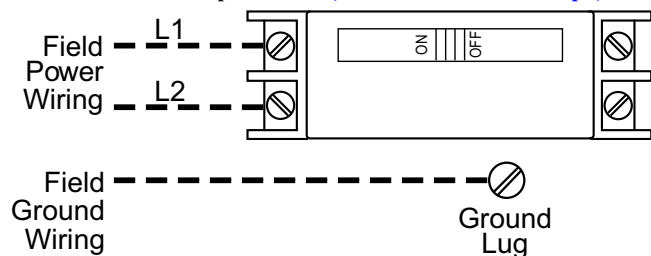
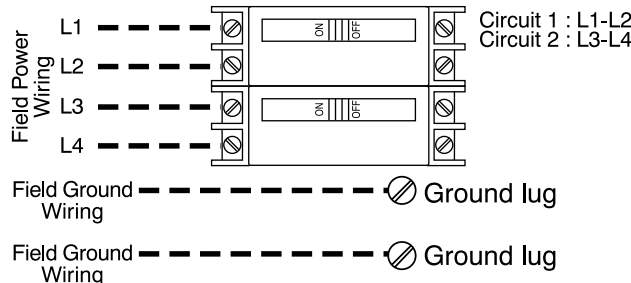

Fig. 13 – 5, 8 10 kW Circuit Breaker and Disconnect Heaters
Fig. 15 – 15 and 20 kW Circuit Breaker Heaters
2. Circuit breaker heaters: See Fig. 13 and Fig. 15.